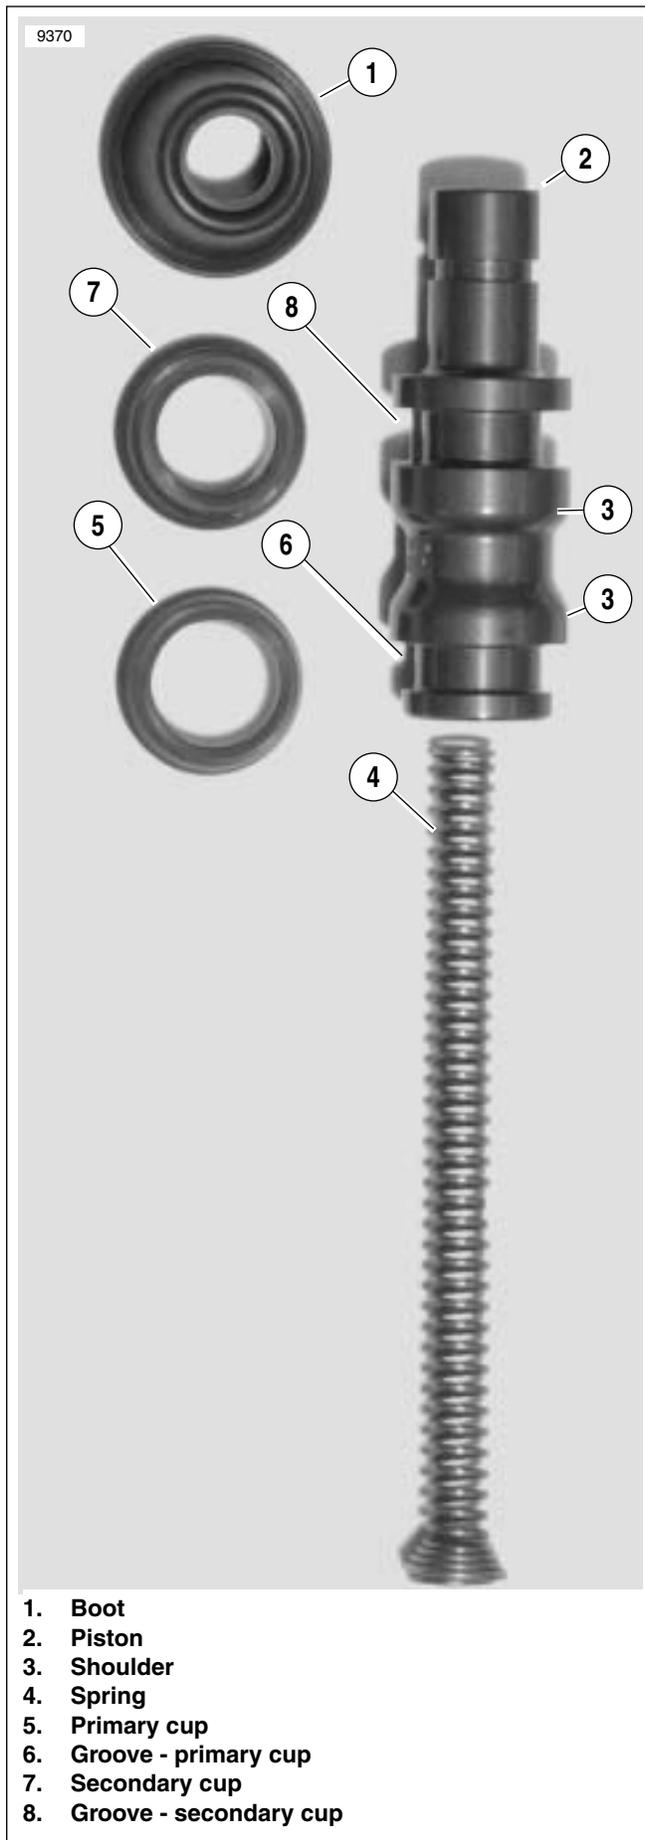

Figure 2-32. Clutch Master Cylinder Components
- See Figure 2-32. Using a toothpick or small screwdriver, gently pry outer edge of piston boot out of piston bore.
1. See Figure 2-32. Lightly lubricate inside of primary cup and fit over lip on spring end of piston so the closed end (small ID) contacts evenly with the shoulder in primary cup groove.